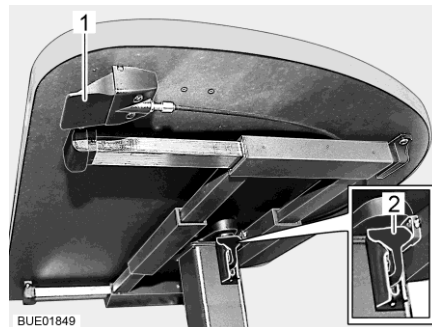

Fig. 39 Lift-off table with release button
- Pull or press down the catch lever (Fig. 39,2).
- Press the catch lever (Fig. 39,2) upwards.
- Press the release button (Fig. 39,1) and hold it down. The table top moves automatically upwards to the limit stop.
- Release the release button (Fig. 39,1). The table top remains in the desired position.
- Press the release button (Fig. 39,1) and hold it down.
- Release the release button (Fig. 39,1). The table top remains in the lowest position.